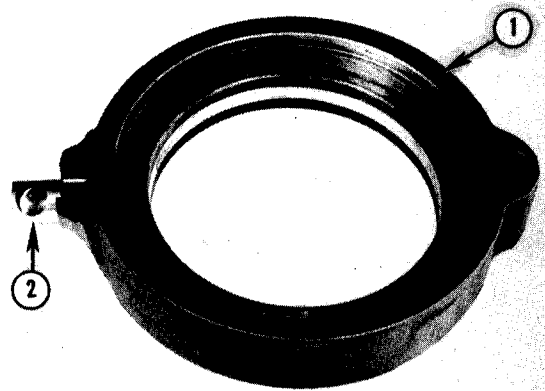

FIG. 4.49-CAM RING & PUMP RACE
20. The cam ring and pump race assembly, No. 1, Fig. 4.49, may now be lifted out noting carefully the position of cam ring insert, No. 2. (The thin wall end of the insert must always be positioned outboard).